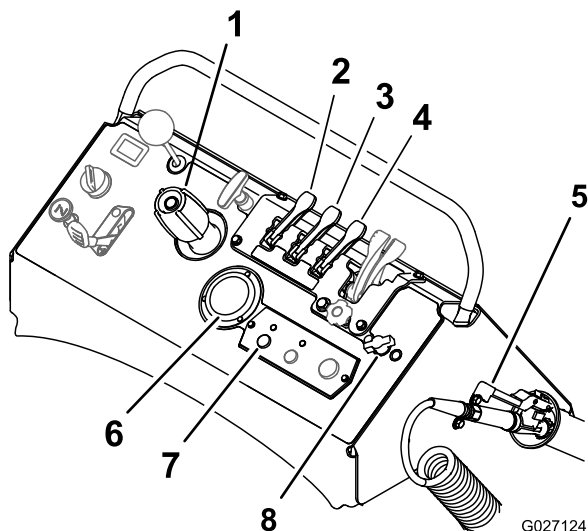

Figure 44
8. Set the sprayer pump switch to the On position (Figure 44).